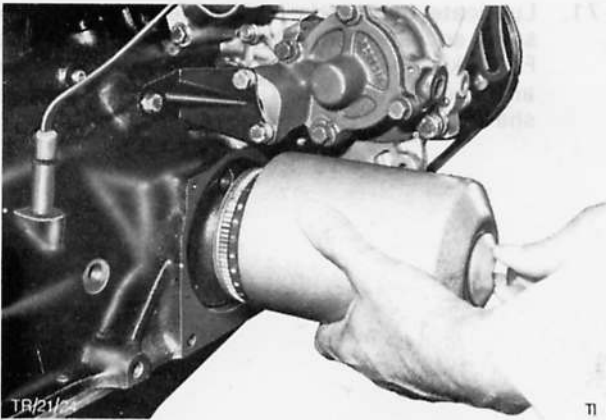

Fig. 96. Fit full-flow oil filter
80. Using suitable hand syringe, fill not less than 1 litre (1,75 pints) engine oil through full-flow oil filter drilling into main oil gallery, then secure full-flow oil filter complete with new cartridge and gasket as specified in Technical Data, Fig. 96. Insert oil dipstick.